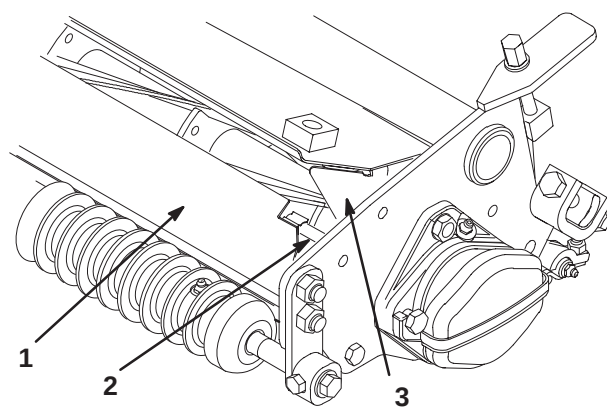

**Figure 10**
- A. Remove the 2 capscrews and washers securing the counter weight to the left end of the cutting unit. Remove the counter weight (Fig. 10, inset).
- B. Remove the plastic spacer at both ends of the cutting unit (Fig. 10).
- D. Apply grease to the inside diameter of the drive coupler. Install the drive coupler to the left end of the cutting unit with a snap ring (Fig. 10).